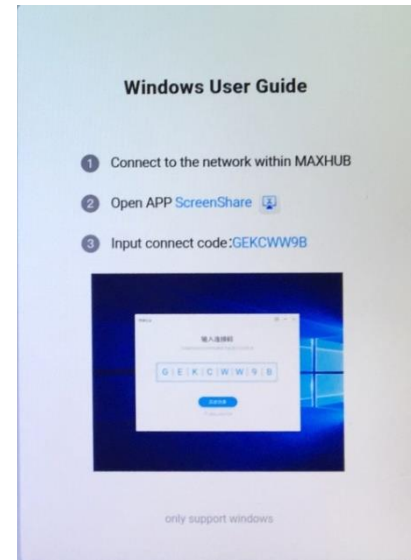

Figure 4.6
- ① Download and install the Screen mirroring assistant application software;
- ② Connect the all-in-one machine Wi-Fi hotspot; (name: Android AP password: 3a8538d9f287)
- ③ Open the desktop application Screen mirroring assistant;
- ④ Input the connection code WAT8ZWWY to enter, refer to the Figure 4.6.